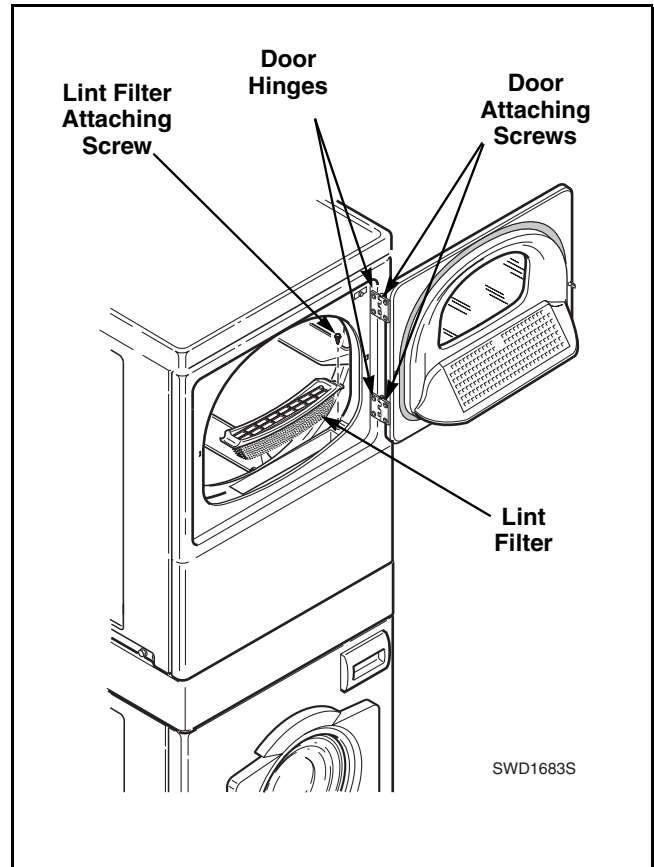

Figure 36
- a. Open loading door and, while supporting door, remove four screws holding door assembly to hinges. Refer to *Figure 36*.
- b. Remove four screws holding hinges to front panel. Refer to *Figure 36*.